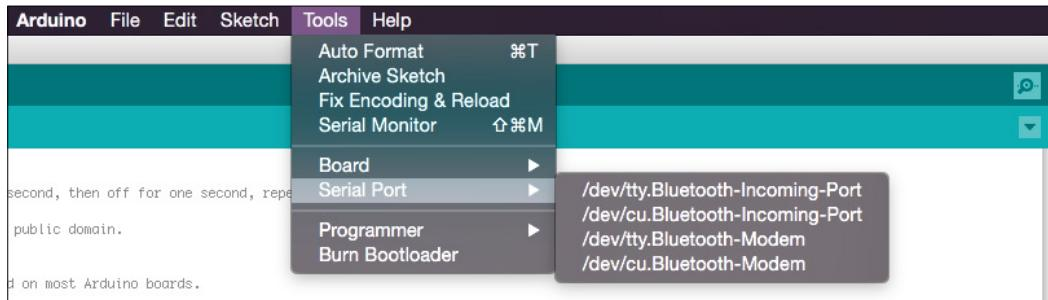
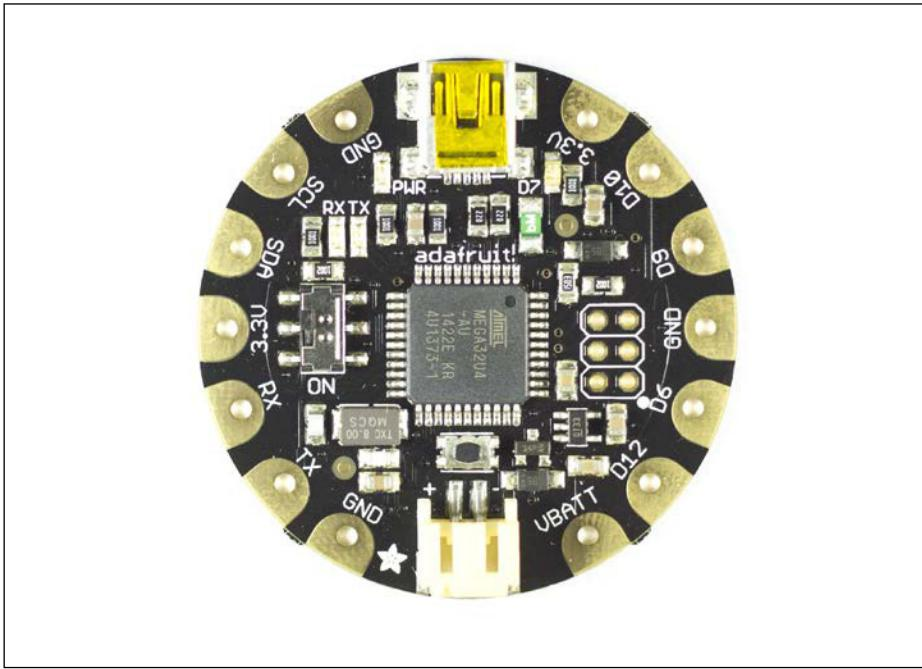
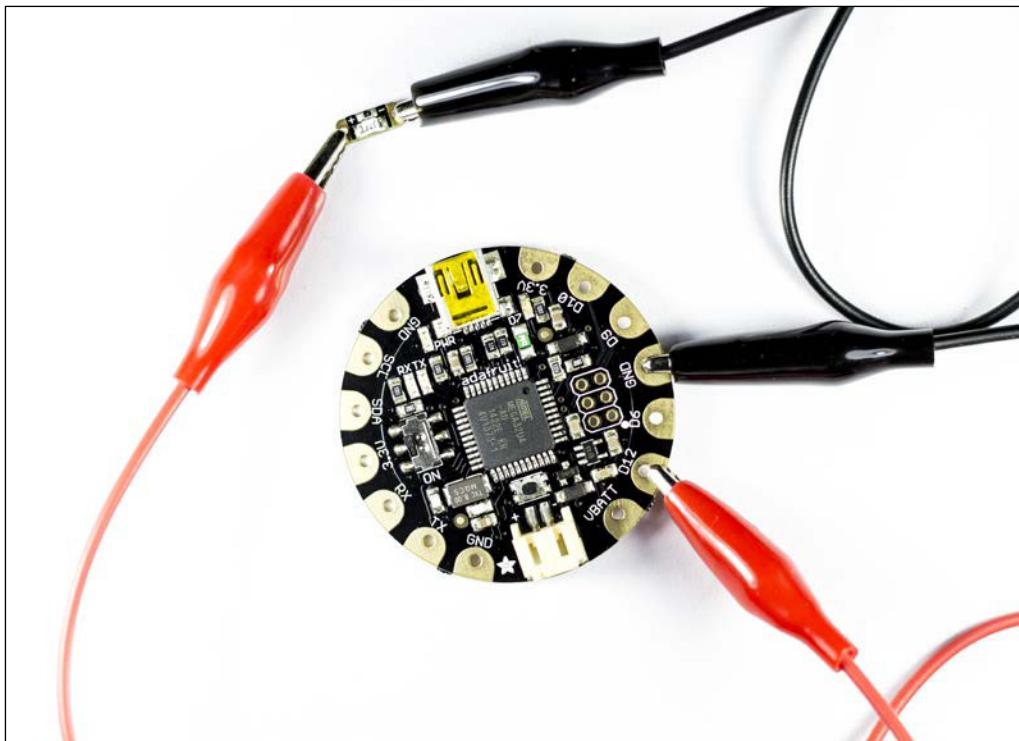

Figure 1.6: The Tools menu
Figure 1.7: The FLORA board
Figure 1.10. The LED connected to the board using alligator clips
In the following *Figure 1.7* you will find the FLORA board:
The biggest difference to normal Arduino boards besides the form factor is the number of pins available. The pins are the copper-coated areas at the edge of the FLORA. The form factor of the pins on FLORA boards is also a bit different from other Arduino boards. In this case, the pin holes and soldering pads are made bigger on FLORA boards so they can be easily sewn into garments, which is common when making wearable projects. The larger pins also make it easier to prototype with alligator clips, which we will be using later on in this chapter as shown in *Figure 1.10*. The pins available on the FLORA are as follows, starting from the right of the USB connector, which is located at the top of the board in the preceding *Figure 1.7*:
The pins available on the FLORA are as follows, starting from the right of the USB connector, which is located at the top of the board in *Figure 1.7*:
**TX**, **RX**, **SDA**, and **SCL** are pins used for communication, which we will have a look at later on in the book in the chapters dealing with more complex sensors. The **VBAT** pin can be used to output the same voltage as your power source, which you connect to the connector located at the bottom of the FLORA board shown in *Figure 1.7*.
In this sketch example, we will use an external LED, but if you want, you can stick with the on-board LED on the FLORA board. The LED used in following *Figure 1.10* is a special surface-mounted LED that is placed on a PCB. If you are using another LED, make sure to pair it with the right resistor. In the case of the custom LED found in *Figure 1.6*, the resistor is mounted on a PCB (printed circuit board). These LEDs are made with wearables in mind, and you can find them in most specialized electronic stores:
To connect the LED to the board, we used alligator clips. Alligator clips are normal wires with metal clips at the end that are great for prototyping, and work especially well with wearable Arduino boards like the FLORA. LEDs have a positive and a negative side to them. In the case of the LED in *Figure 1.10*, these are marked on the PCB with a + sign for the positive and a - sign for the negative side. The positive side connects to pin D12 on the FLORA board, and to complete the circuit, the negative side connects to GND.